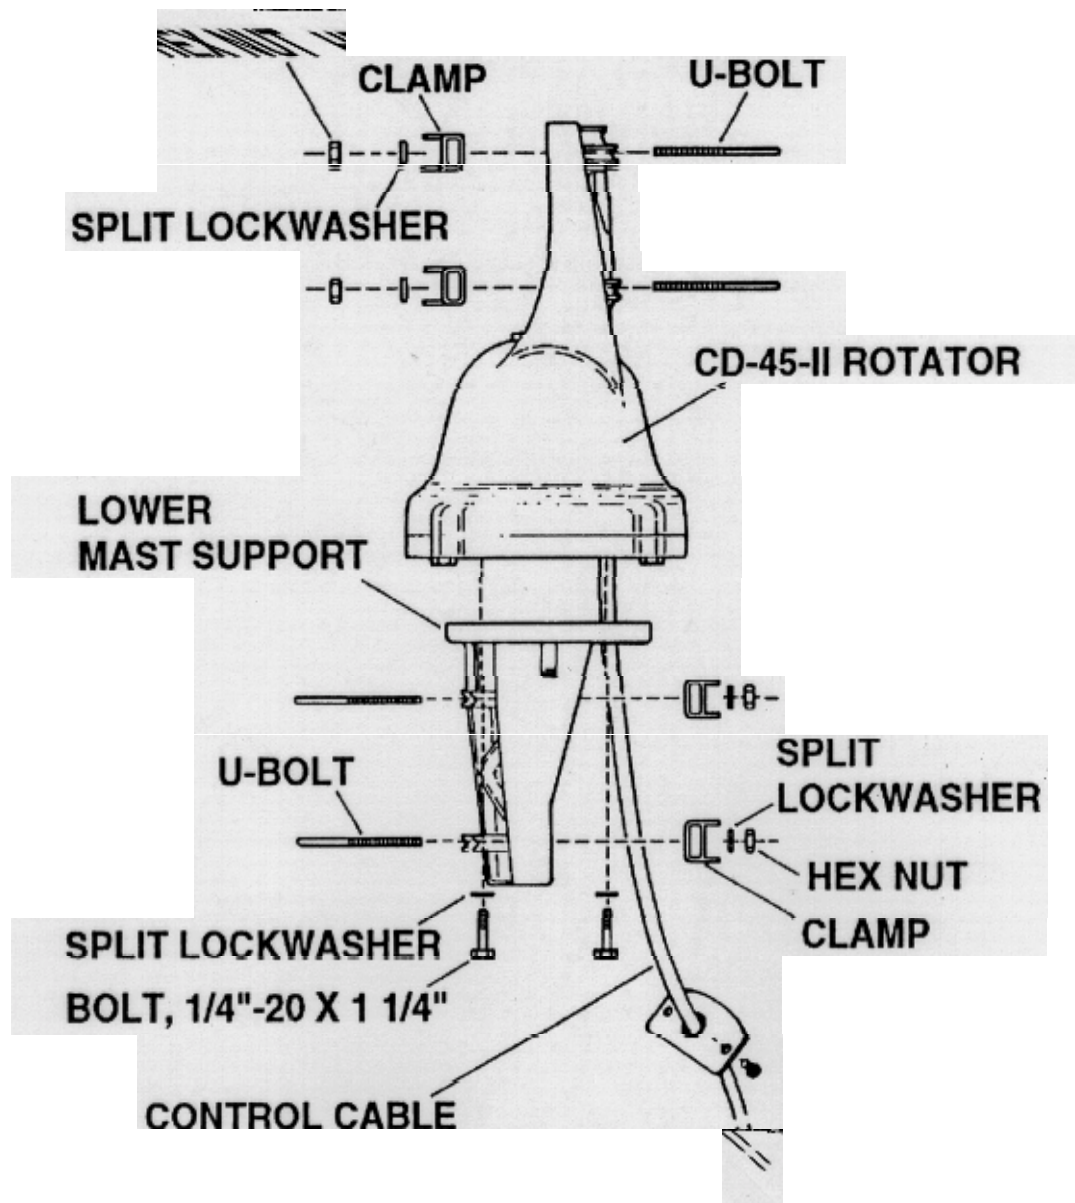

Figure 5
1. Mount the rotator to the lower mast support and to the mast. (See Figures 5 & 6.)